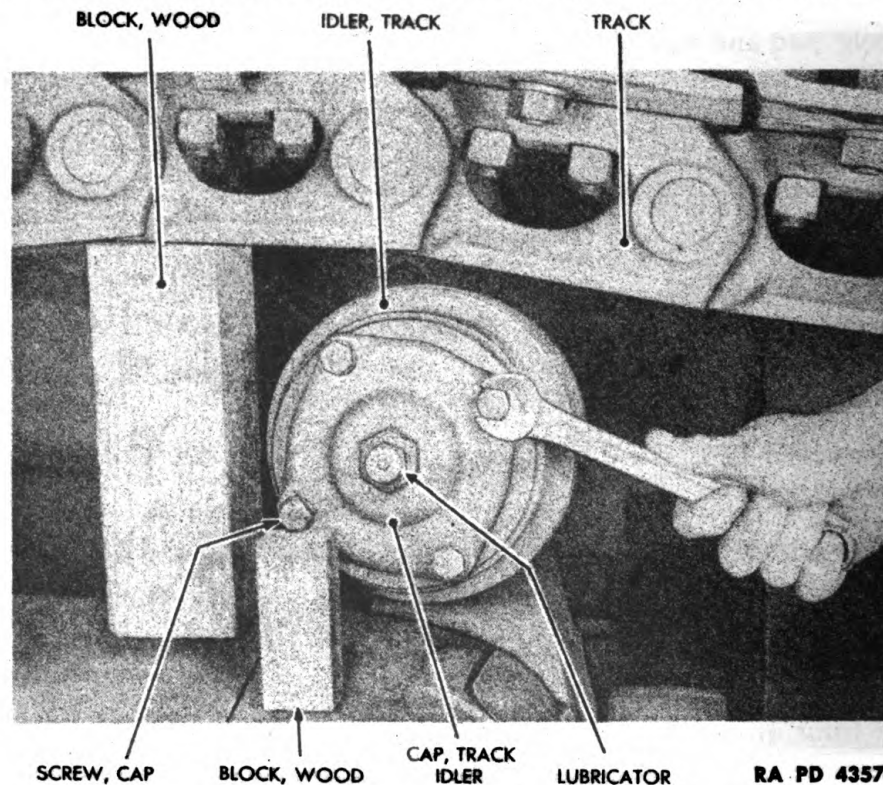

Figure 137 – Track Idler Removal
(1) RAISE TRACK ABOVE IDLER TO BE REMOVED (fig. 137).
(2) REMOVE TRACK IDLER CAP (fig. 137).
(3) REMOVE LUBRICATOR FROM CAP (fig. 137).
(5) INSTALL LUBRICATOR IN TRACK IDLER CAP (fig. 137).